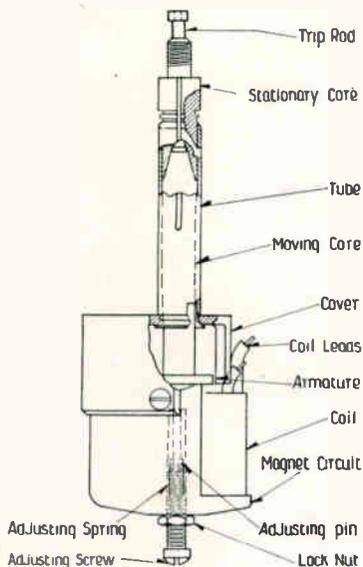

FIG. 21—DIRECT TRIP ATTACHMENT
**Direct Trip Attachment (Fig. 21)**—Two opposed trip coils are added below the overload trip coil when a definite delay time in tripping is desired. The holding coil, the terminals of which are marked 3 and 4, retains the armature which is fastened to the moving core until the terminals to the relay coil are short-circuited. The terminals are marked 1 and 2. The adjusting screw pushes on the balance spring which balances the weight of the moving core and armature and allows the armature to drop just far enough to touch the magnetic yoke when no current is flowing.